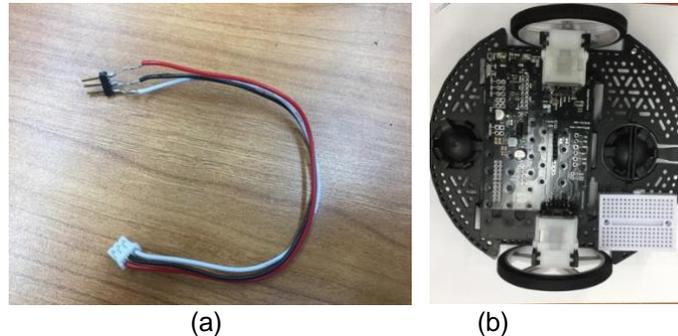

Figure 8: Range finder cable (a) and breadboard attached to the chassis (b).
- a) First take 3 male pins and solder them to the JET connectors as shown in Fig. 8(a).
- c) Take out your mini breadboard, and peel off the backside attached to the chassis as shown in Fig. 8(b).